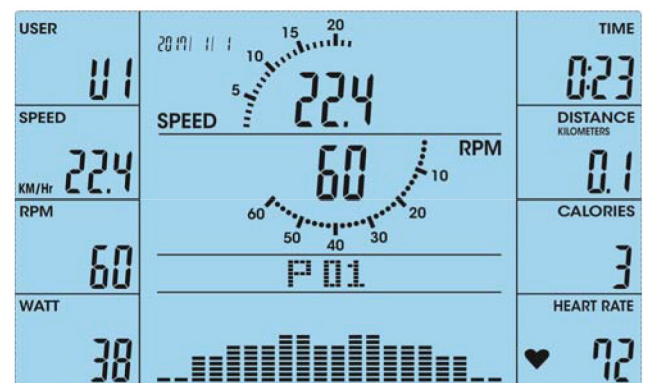

Fig. 31
2. Press START/STOP to start the training (fig. 31).